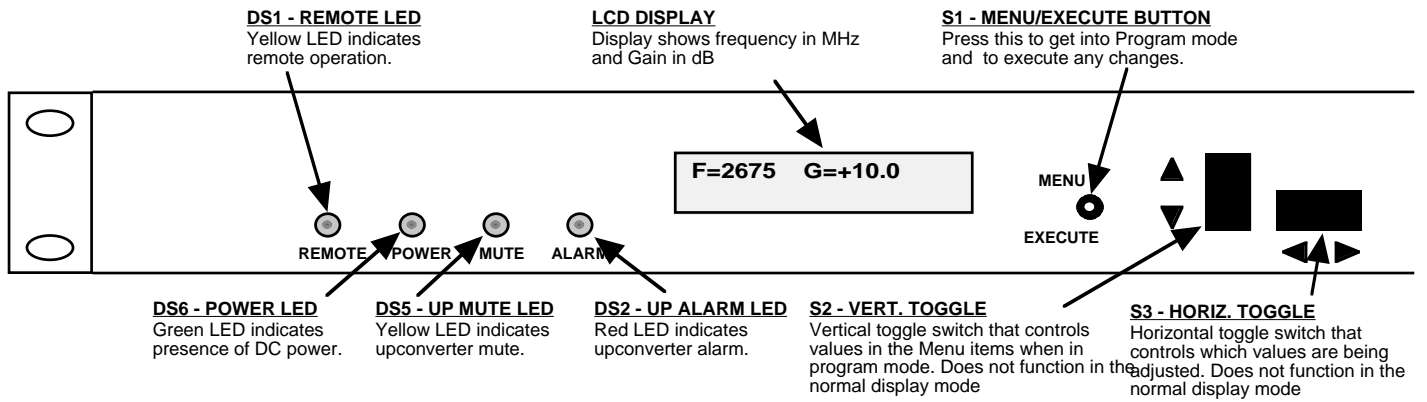

FIGURE 2.3 2015-27 Front Panel Controls and Indicators
7. Be sure DS6 (green, DC Power) is on and DS2 (red, Alarm) is off (Figure 2.3).
Alarm indications appear on the LEDs (see figure 2.3).